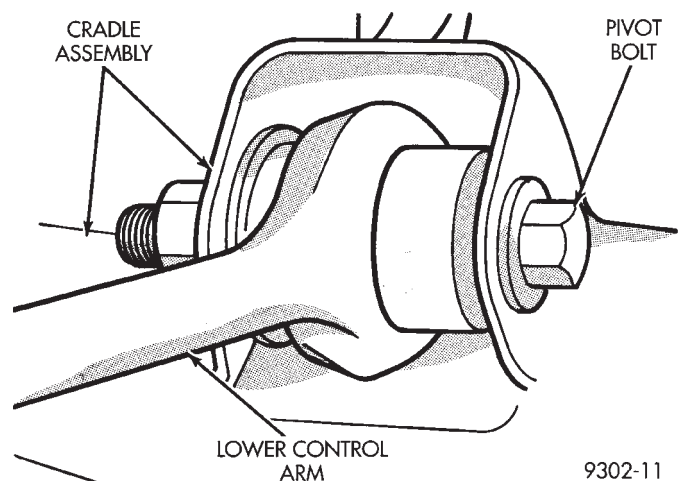

Fig. 4 Lower Control Arm Pivot Bolt
(6) Loosen and remove lower control arm pivot bushing to cradle assembly pivot bolt (Fig. 4).
(2) Install the lower control arm to cradle bracket attaching bolt and nut (Fig. 4). **Do not tighten the lower control arm to cradle bracket attaching bolt at this time.**